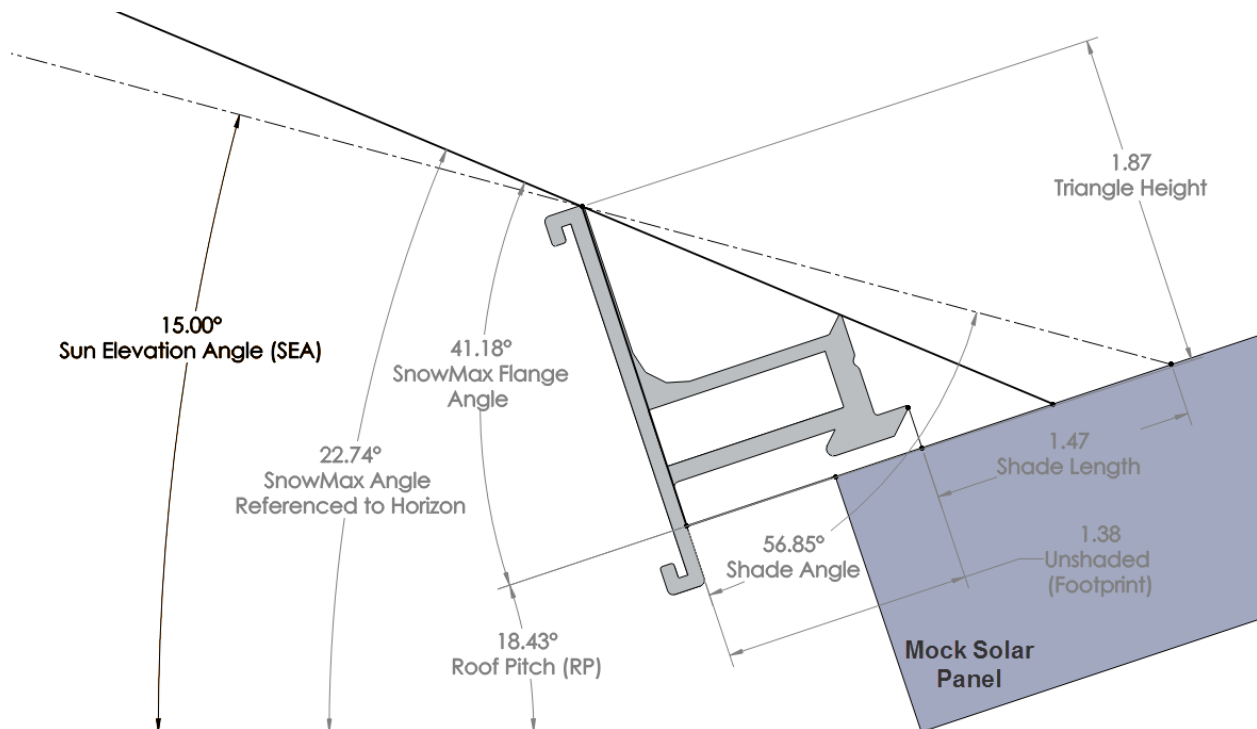

Fig. 3.3.b
3.3 Figure 3.3.a shows the geometry that determines the Sun Elevation Angle relationship to the Roof Pitch and SnowMax Bar Beam Angle. This accounts for the initial shading that occurs in off peak hours. The angle we solve for is the shade angle. By solving for this angle, we can now find the Beam Shade Length. The calculations are shown below:
Figure 3.3.b shows the geometry that determines the Sun Elevation Angle relationship to the Roof Pitch and SnowMax Bar Flange Angle. The Flange shading will be significant than the bar angle once it is present. Therefore, once the Flange shade occurs, Beam shade is no longer present in the charts. The formula for Flange Shade Length is shown below:
The following calculation shows how the 56.57° shade angle was determined in Fig.3.3.a :
$$\text{Total Shade Length} = 1.45'' (1.47'' \text{ shown in Fig 3.3.b due to rounding and tolerance})$$